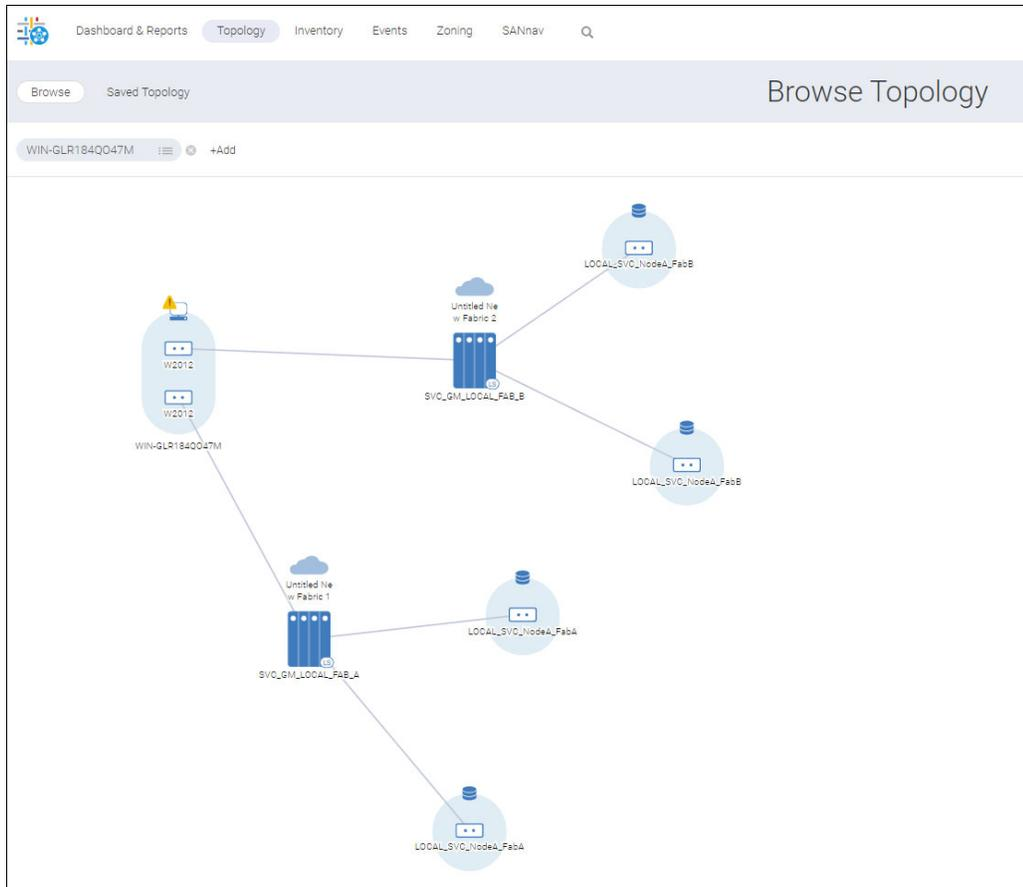

Figure 5-96 See host ports
- To see the host ports, hover your cursor over the host icon, and click + (Figure 5-96 on page 187).